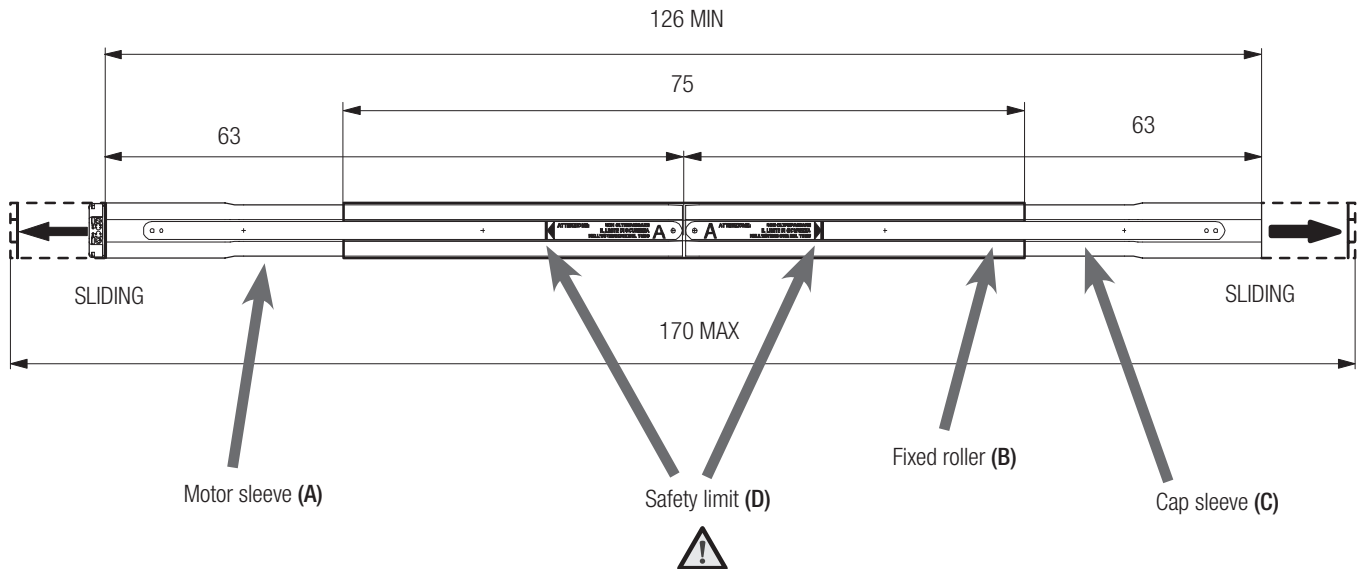

Fig. 10
To obtain the minimum value, fully insert the 2 sleeves (Fig. 10 ref. A-C) inside the fixed roller (fig. 10 ref. B) (Roller length 126 cm)
To obtain the maximum value, withdraw the 2 sleeves (Fig. 10 ref. A-C) from the roller, up to the safety limit marked on the plate (Fig. 10 ref. D) (Roller length 170 cm).
! WHEN YOU SLIDE THE SLEEVES TOWARD THE OUTER ENDS OF THE FIXED ROLLER, NEVER GO BEYOND THE SAFETY LIMITS (Fig. 10 ref. D)
4.2 ASSEMBLIES DESCRIBED IN CHAPTERS 3.3 (Fig. 10)